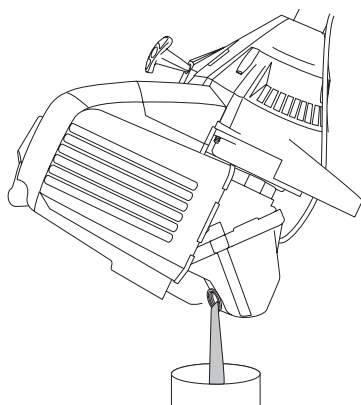

Fig. 54
3. Pour the oil out of the oil fill hole and into a container by tipping the unit to a vertical position (Fig. 54). Allow ample time for complete drainage.